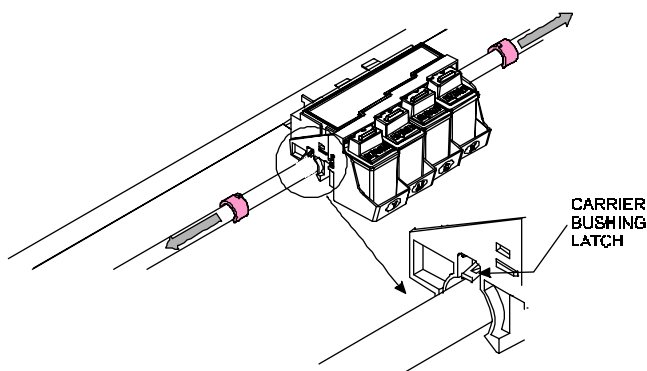

Figure 5-11. Carrier Bushing Removal.
2. Use a flat tip screwdriver to push up on the latch which holds the Carrier Bushing in place. See Figure 5-11.